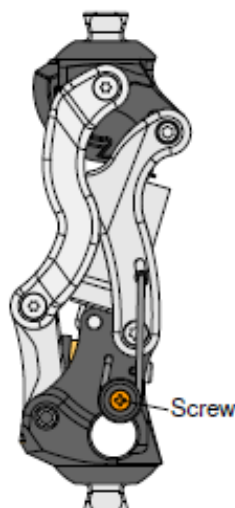

Fig. 3
- ① Use a Phillips –head screwdriver to loosen the screw as shown in Fig. 3.
- ② The spring may then be gently removed from the mounting holes.
- ① Place the retainer through the coil section and position the spacer at the forward end of the retainer.
- ② When the weak spring (White Guide) is used, combine with the white retainer.